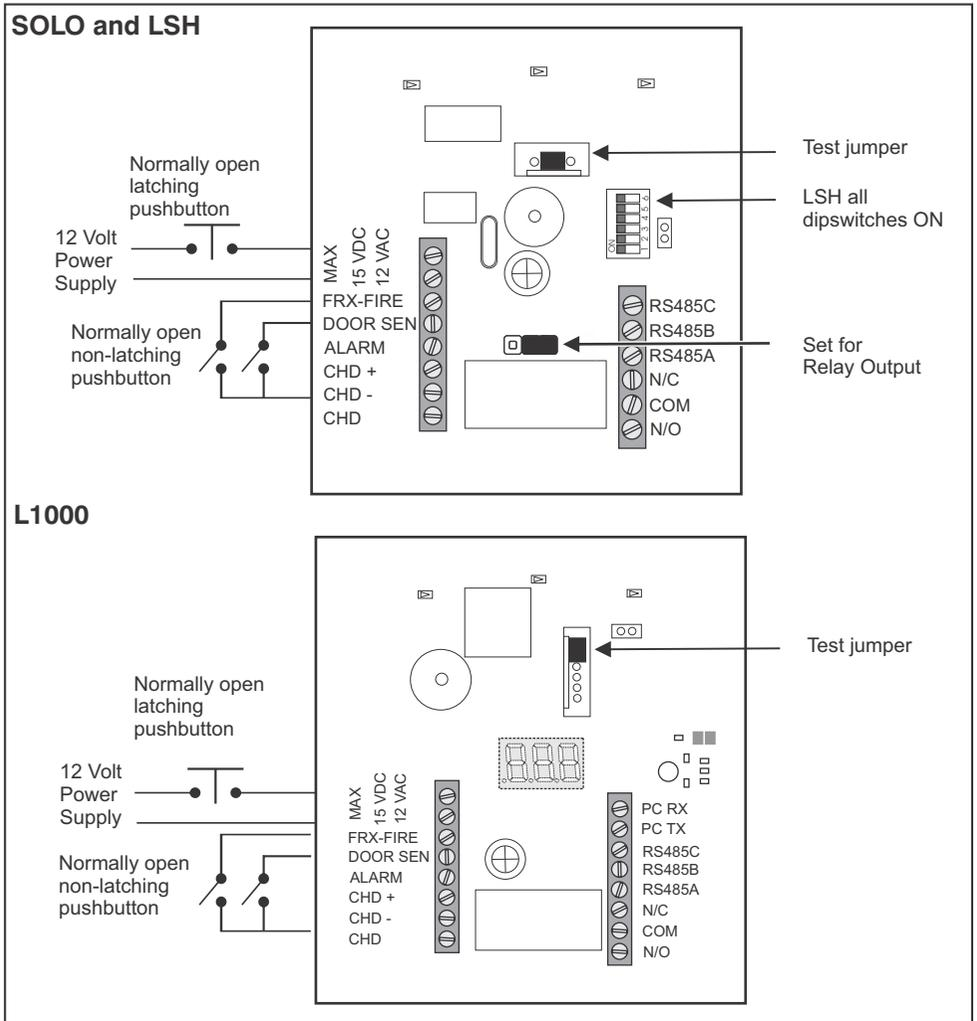

Figure 1 Connection Diagrams for the SOLO, Lattice SLAVE head and L1000 Controller
2. Ensure that all connections are correct as per figure 1.
3. Ensure that the test jumper and where applicable the relay jumper are correctly placed as per figure 1.
4. Ensure that the DIP switches on the LSH are all set to the ON position as per figure 1.
2. Connect power by closing the latching switch as shown in figure 1.
1. Remove the test jumper refer to Figure 1.
1. Remove the test jumper refer to figure 1.
1. Briefly press the normally-open switch connected to the FRX terminals as per figure 1, or momentarily short the FRX and CHD- terminals together.
4. Press the normally-open switch connected to the FRX terminal as per figure 1, or short the FRX and CHD- terminals together.
9. Press the normally-open switch connected to the FRX terminal as per figure 1, or short the FRX and CHD- terminals together.
5. Press the normally-open switch connected to the FRX terminal as per figure 1, or short the FRX and CHD- terminals together.
1. Briefly press the normally-open switch connected to the DOOR SEN terminal as per figure 1, or momentarily short the DOOR SEN and CHD- terminals together.